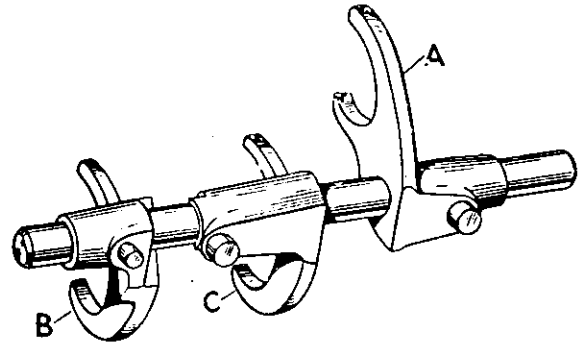

Fig. B93.
There are three selector forks sliding on a common spindle. The innermost fork is for mainshaft fourth gear and runs in the camplate bottom track. This selector fork is flush at both ends of the bore and differs in this respect from the others (A) Fig. B93.